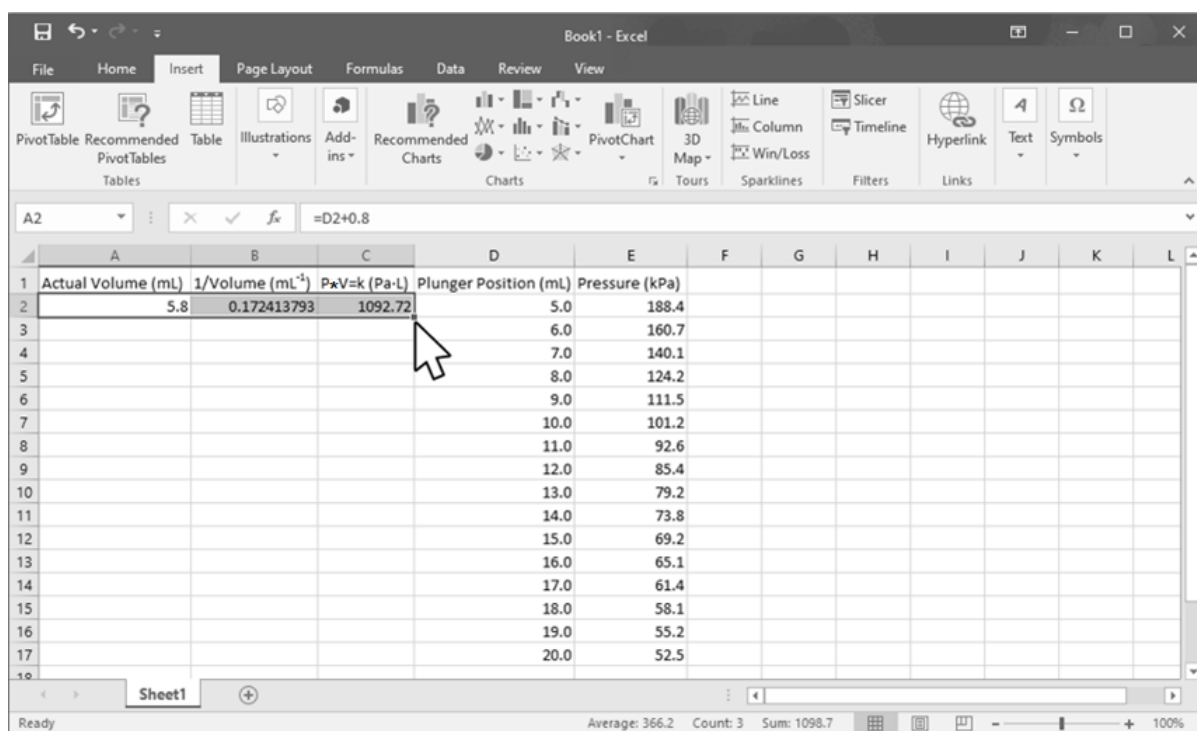

Figure 3. A partially complete Excel® data table.
- Once the first row of your data table is complete, click and drag to select the three cells that contain calculations. When these cells have been selected, a box will appear around them with a dark “dot” on the bottom-right corner (*Figure 3*). Double click on this dot and Excel® will automatically calculate all the rest of the rows in your data table.